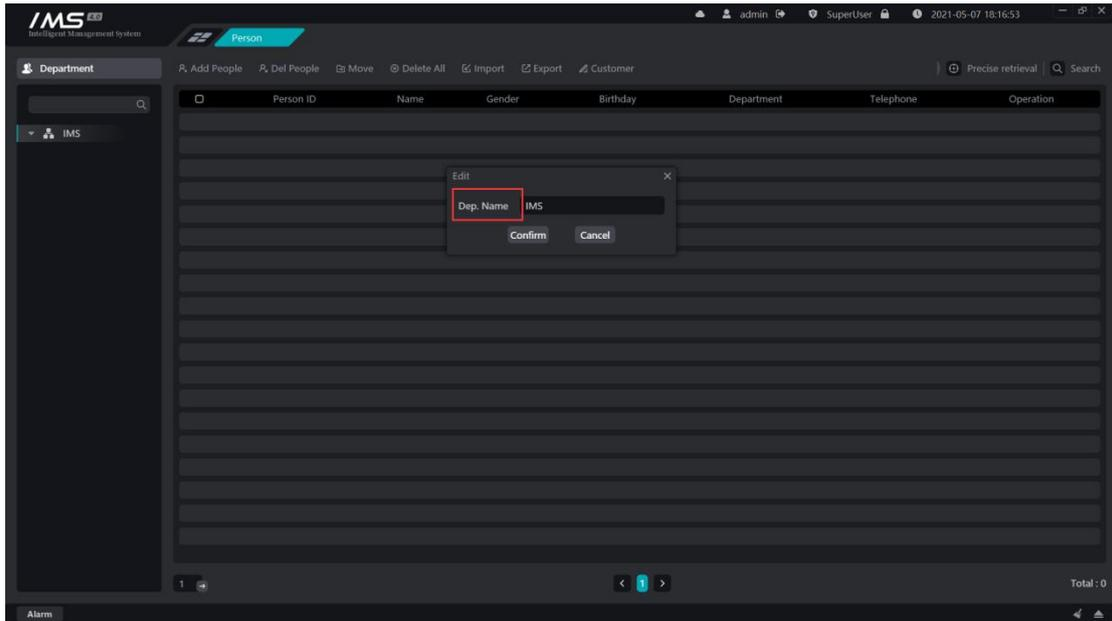

Figure 3-3
- 2 click the button  on the department node to open the edit window, as shown in figure 3-3.